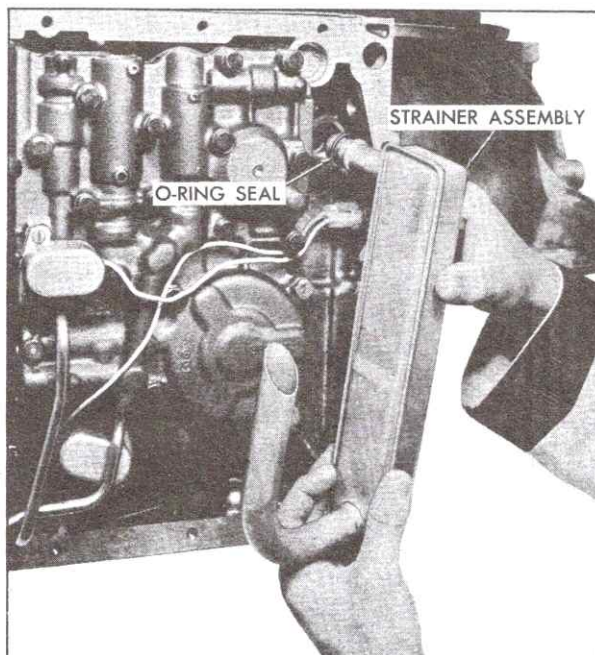

Fig. 7-140 Removing Intake Pipe and Strainer Assembly
4. Lift out intake pipe and strainer assembly, Fig. 7-140.
5. Remove and discard intake pipe O-ring, Fig. 7-140.